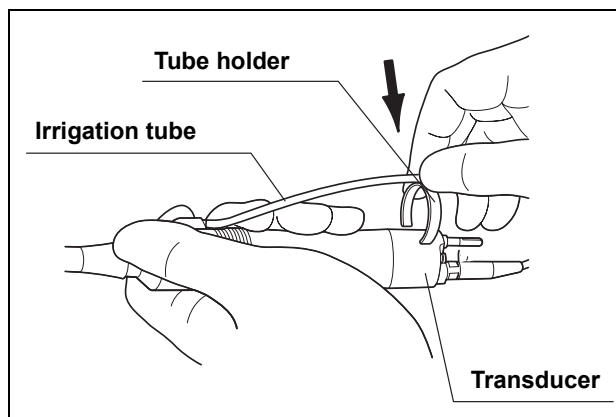

Figure 4.10
2. Attach the tube holder of the irrigation/suction tube of the transducer (see Figure 4.10).